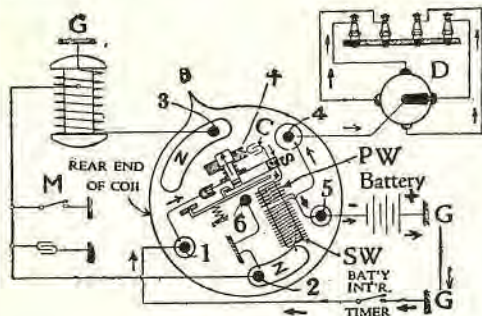

Fig. 20. Battery position.
The illustration (Fig. 20) is supposed to represent the rear of coil and switch. Points 3 and 4 are not connected, consequently the magneto secondary circuit is open. Note that the magneto primary wire is grounded at 2; therefore it is out of service.
Note: When the switch is turned, the rear end of coil (Fig. 16), with the bus-bars (Z) moves and connects with the inner side of switch plate (17). Therefore, when the switch is thrown on (B) side the point (1) on switch-plate (17) lines up with point (1) (one of the bus-bars Z) on rear end of coil (Fig. 16); likewise (2) and (5) line up with bus-bars on the end of coil. A study of Fig. 20 will help make this explanation clear.